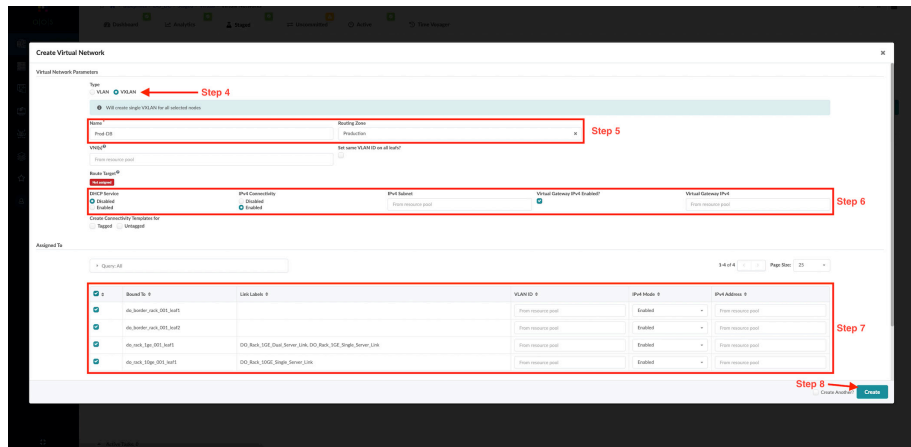

Figure 5.8 Adding a Virtual Network via Apstra
Step 4: Select the virtual network type. See Figure 5.8.
Step 7: Assign the virtual network to the desired racks within the DC fabric, in this example shown in Figure 5.8 the VNI is assigned to all racks.